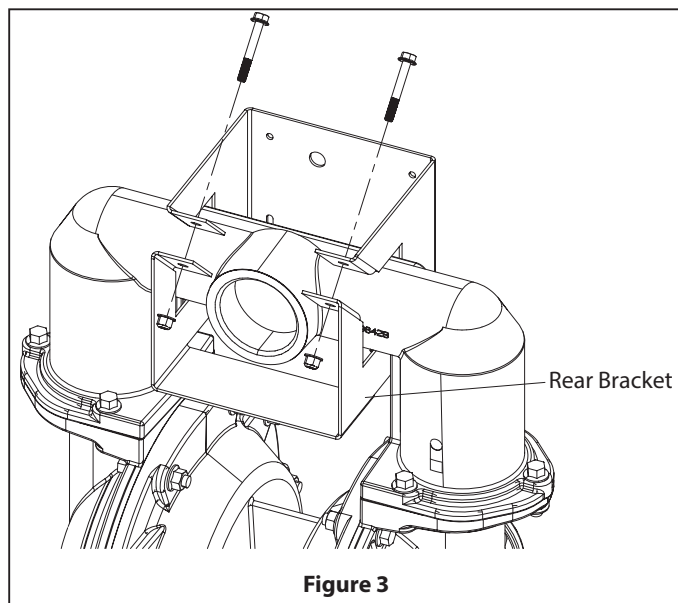

Figure 3
2. Mount the rear bracket from the opposite side of the manifold and secure in place with the M8 bolts and nuts. See Figure 3.